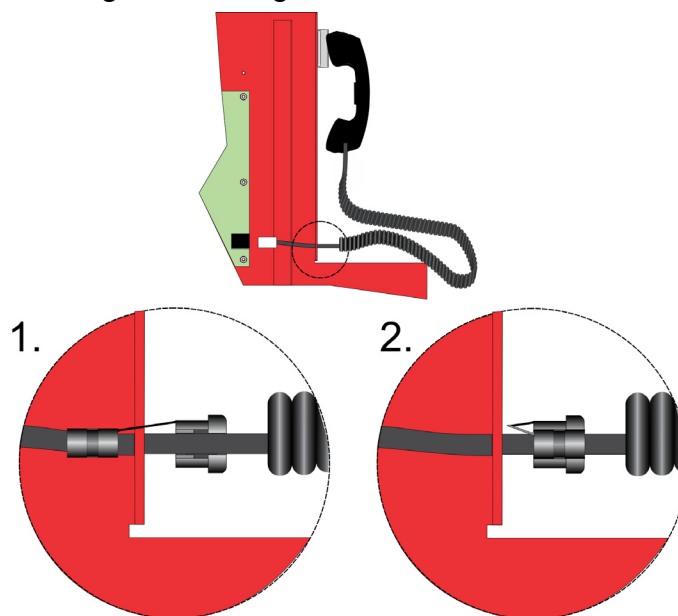

Figure 3-6 Installing Strain Relief Clip
2. Attach strain relief clip to the phone cord. The strain relief clip should have about 2 $\frac{3}{4}$ " of phone cord though it. See Figure 3-6.